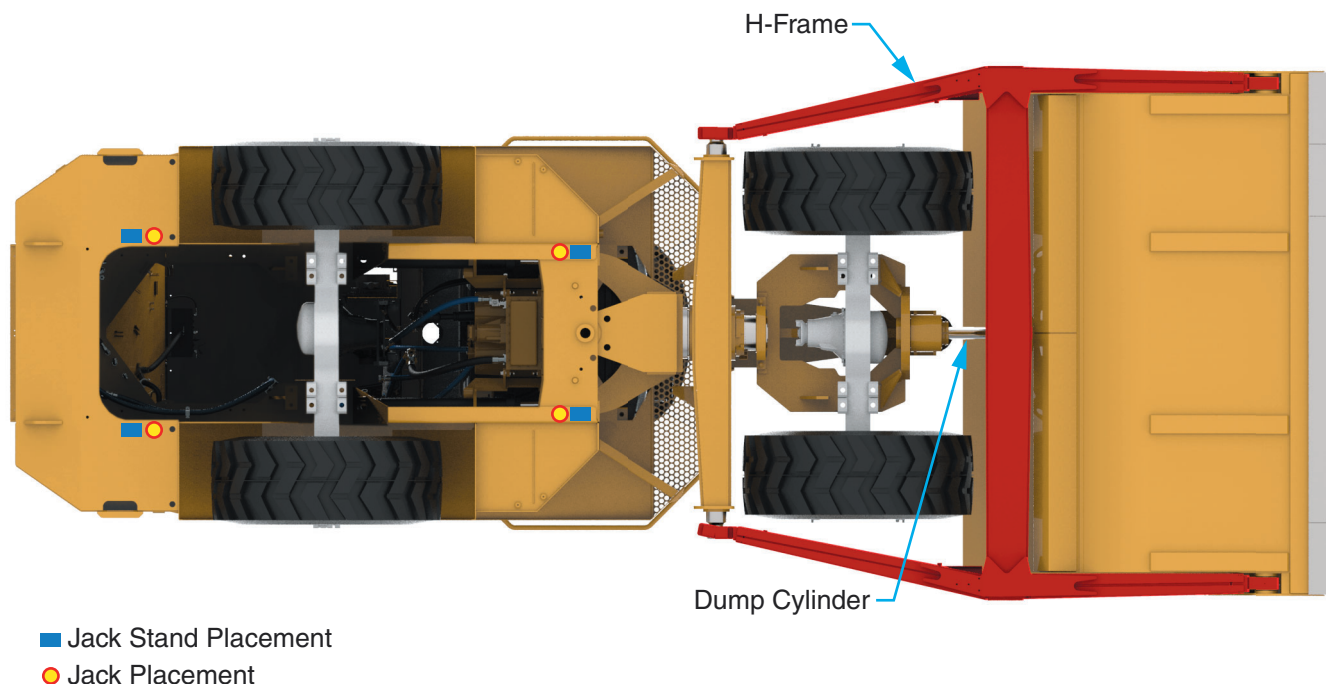

Figure 1 Jacking Locations
4. Use jack(s) in location(s) illustrated (See Figure 1). Use pads (anti slip material) that are minimum 4" x 4" in size between jack and Dozer to prevent damage.